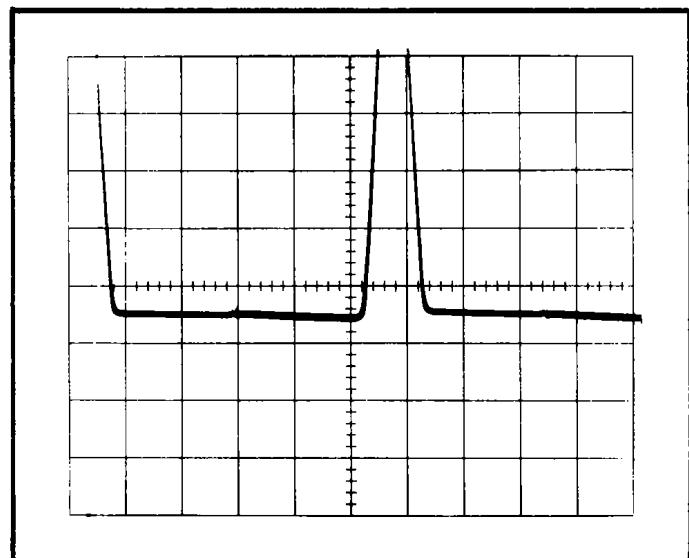

Fig. 5-8. Test oscilloscope waveforms when Horizontal Amplifier Limiting Centering is properly adjusted.
- g. CHECK—The base line of both displayed waveforms should be at the same DC level within 0.2 division (see Fig. 5-8).